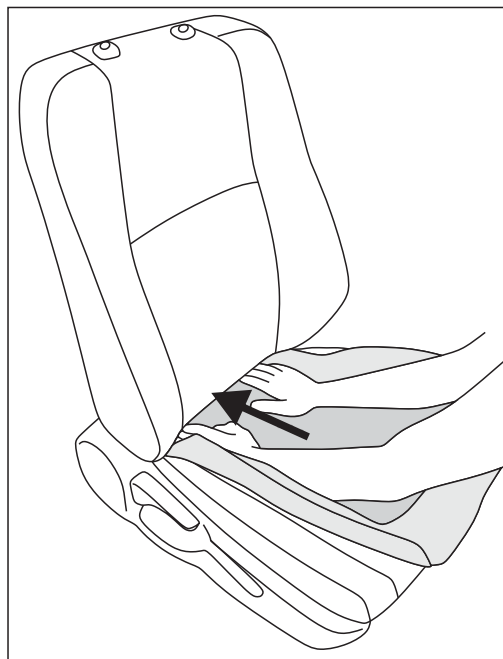

Fig.4
4. Feed the back of the cover in between the seat backrest and base (Fig.4).